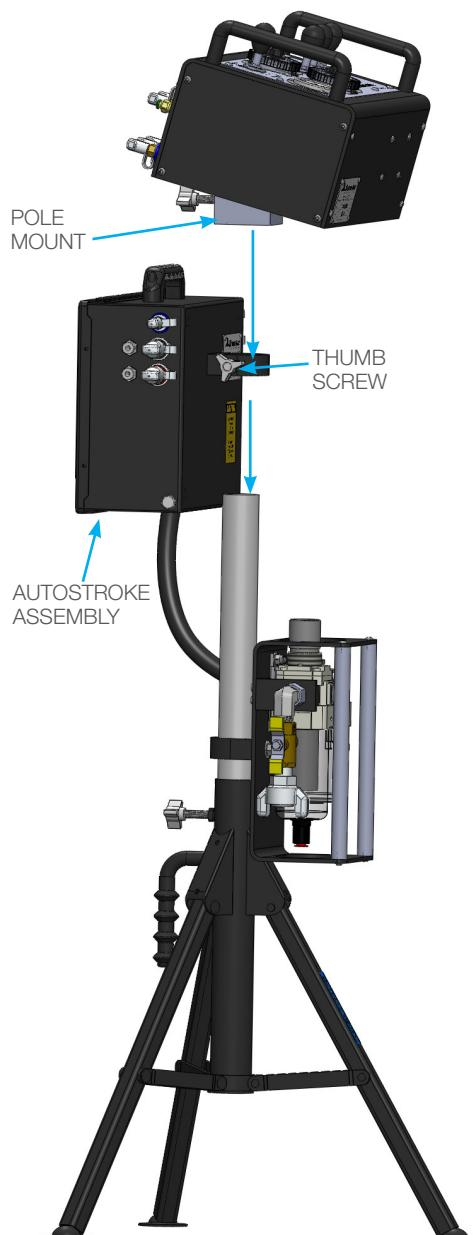

FIGURE 2
2. Slide the AutoStroke Assembly onto the Mounting Pole, with the Decal side facing away from the FRL. Then hand tighten the Thumb Screw. Then slide the Control Assembly back onto the Mounting Pole. Then hand tighten the Thumb Screw to secure the Control Assembly to the Mounting Pole. (**Figure 2**)
2. Connect the LONG 1/4" I.D. Hose to the fitting marked "CLAMP" on the right side of the AutoStroke and the opposite end to the "CLAMP" fitting on the ABX-3L. Insert the ends of the 1/4" BLACK and RED tubing into the press lock fittings on the right side of the AutoStroke. Push the opposite ends of each tube into the color labeled, press lock, fittings on the manifold atop the ABX-3L. Connect the BLACK and RED 1/2" lines to the right side of the AutoStroke marked "Forward" and "Reverse" and connect the opposite ends to the manifold on the ABX-3L. (**Figure 2 & 3**)